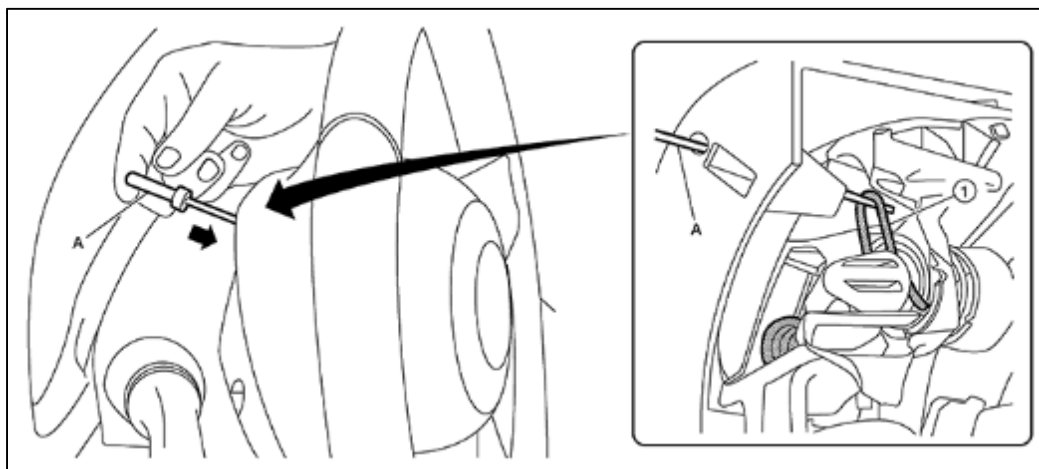

Figure 4
- Insert the Airbag Release Tool (A), into the access hole and under the spring (1), as shown in Figure 4.